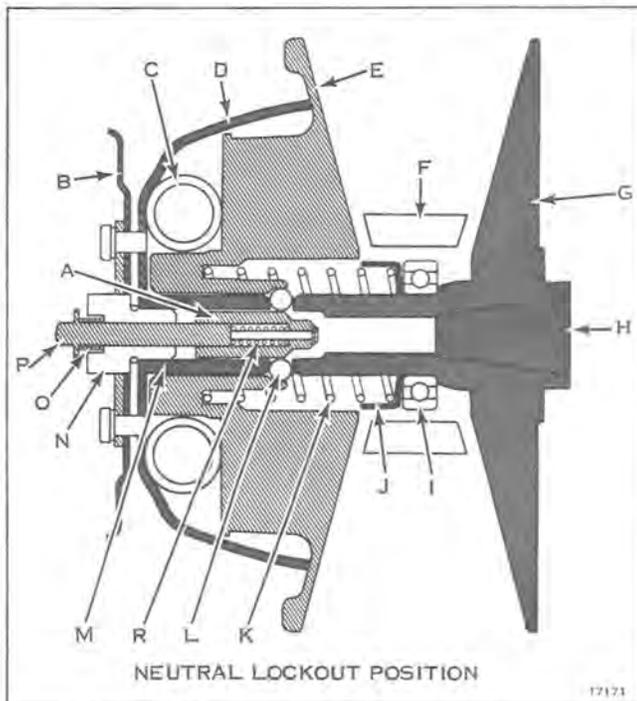
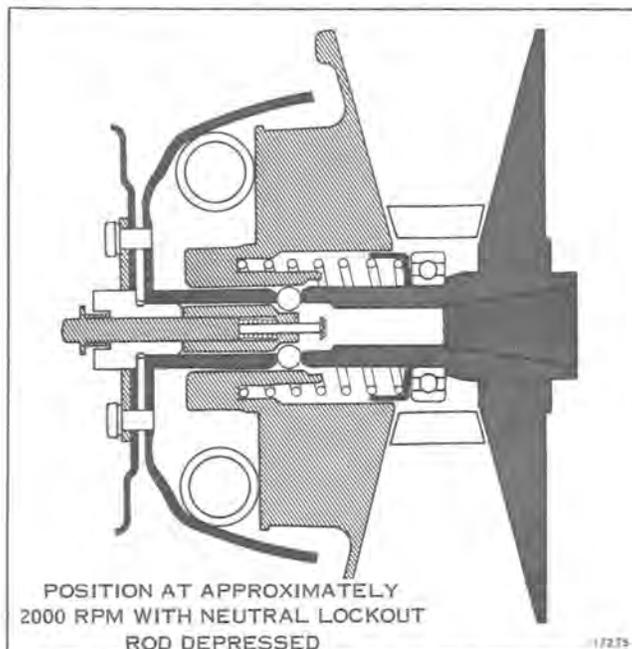

Figure 3-7
Figure 3-9
The primary sheave is centrifugally operated and engages the transmission belt when the engine speed reaches approximately 2700 rpm. When the engine is rotating at idle speed or below 2700 rpm, the transmission belt rides on a ball bearing between the halves of the primary sheave assembly (see Figure 3-7). The primary sheave assembly halves are separated by a compression spring in the hub of the movable sheave half.
When the engine is running above approximately 2000 rpm, the garter spring will expand by centrifugal effect. See Figure 3-9. The garter spring will then ride up the ramp of the end cap and push the movable sheave toward the fixed sheave. In doing this, the movable sheave has covered the holes in the splined shaft. When the neutral lockout knob is now pushed in, the plunger cannot move in because of the interference by the neutral lockout balls. Spring (R) will therefore be compressed as shown in Figure 3-9. If the engine speed is now reduced to idle, 1300-1600 rpm, the garter spring will close and allow the movable half of the sheave to move away from the fixed sheave. Spring (R) will then push the plunger inward. The neutral lockout balls will then move outward, through the splined shaft. The movable sheave will now be locked out in the neutral position. See Figure 3-7.